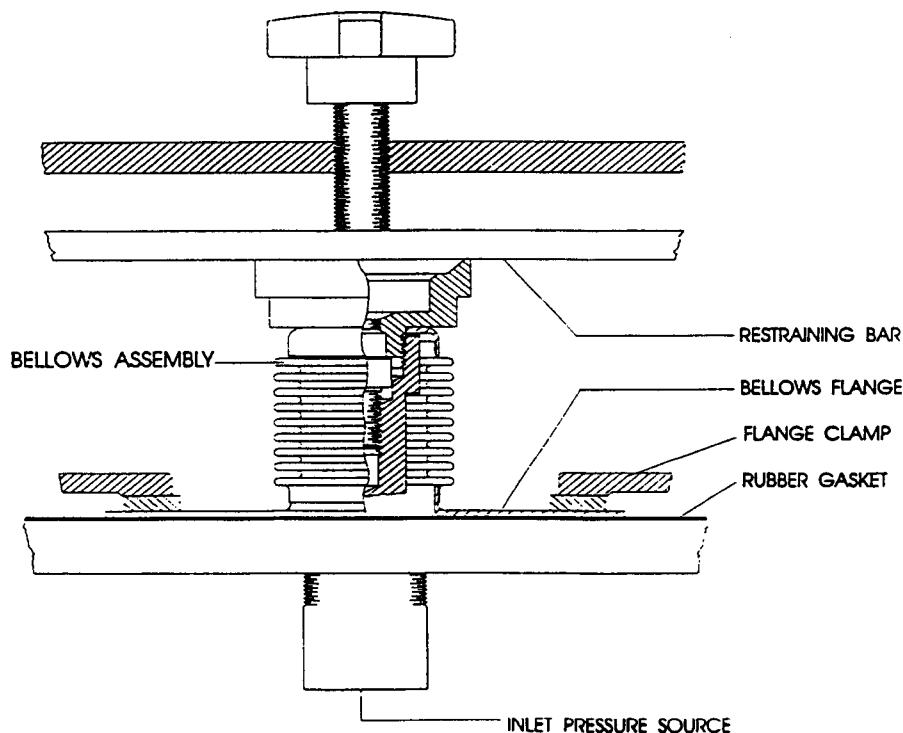

Figure 3.0
Bellows require very thin materials to provide the required flexibility. This results in a delicate assembly which should be carefully handled. Do not attempt to repair a bellows assembly and cleaning should be limited to solvent methods. Any pitting or surface corrosion are sure signs of limited service life even though the bellows may be pressure tight. All bellows assemblies should be pressure tested in accordance with Figure 3.0. Any leakage should be cause for bellows replacement.
2. Seal the flange of the bellows to the base of the bellows test fixture as illustrated in Figure 3.0 below.
3. Compress the bellows approximately 1/8 inch with a securing bar so that the bellows does not elongate when pressure is applied as in Figure 3.0.